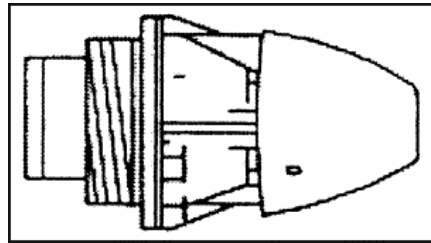

Figure 7-17. M734 multioption fuze.
- (1) Functions: Impact.
- (2) Settings: Superquick or 0.05-second delay action.
- (3) Remarks: The fuze has a safety wire.
c. **M734 Multioption Fuze** (Figure 7-17).